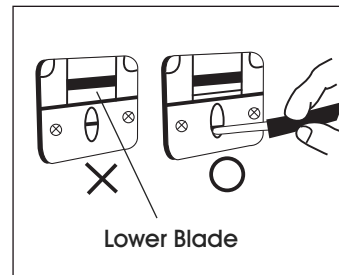

Figure 3
2. To replace blades, remove the two screws inside head. Blade can then be lifted out and replaced. Before remounting the cutter unit to the frame, the lower blade must be bottomed out. If it is not completely down, use a screwdriver to lower it. (See Figure 3)